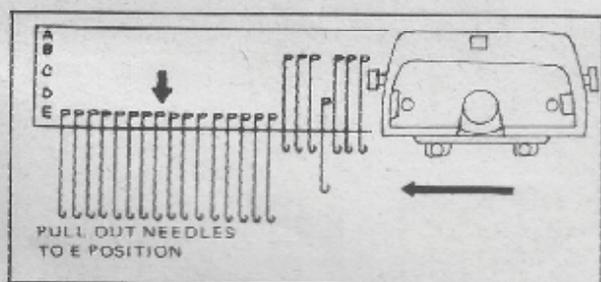

Fig. 3
2. Select the needles according to the relative knitting diagram, and knit one row. (Fig. 3)